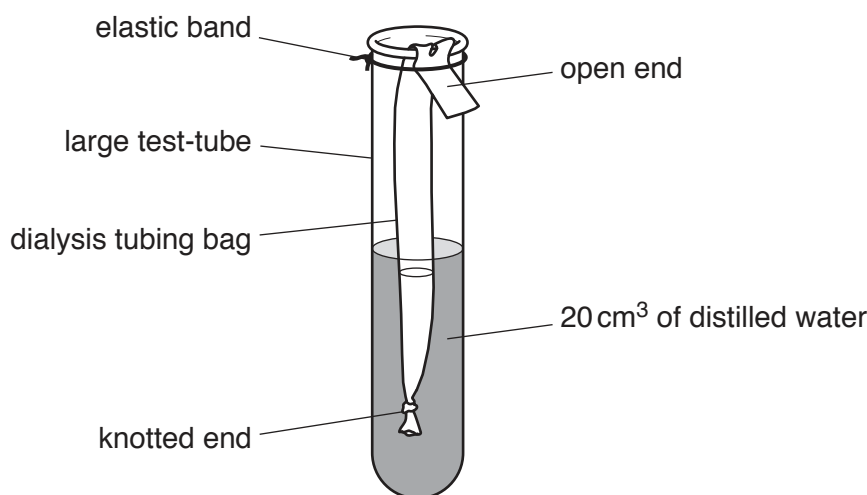

Fig. 1.1
- Step 8 Carefully lower the dialysis tubing bag into the large test-tube labelled **E**. Fold the top of the bag over the outside of the test-tube. Use an elastic band to hold the dialysis tubing in place as shown in Fig. 1.1.
- Step 10 Carefully lower the dialysis tubing bag into the large test-tube labelled **W**. Fold the top of the dialysis tubing bag over the outside of the test-tube. Use an elastic band to hold the dialysis tubing in place as shown in Fig. 1.1.